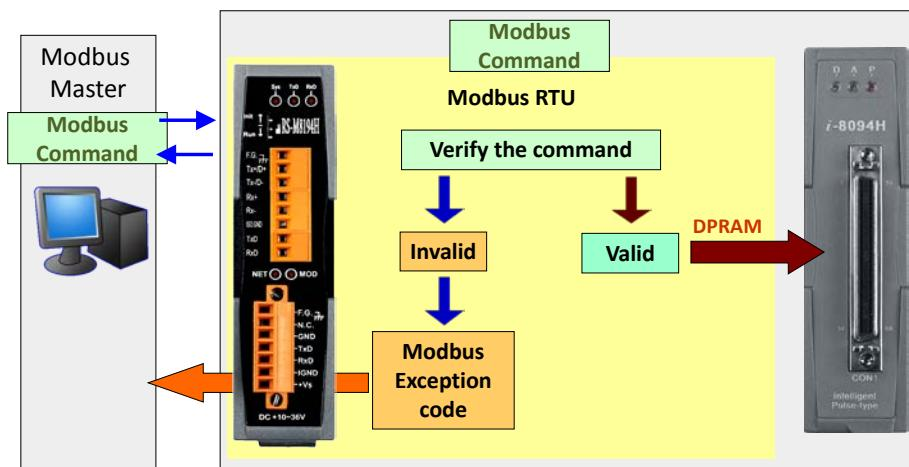

Figure 1: RS-M8194H module in slot 0 of the motion device
- The RS-M8194H module (Figure 1) in slot 0 is the unit which is mainly responsible for the Modbus communication between the Master and Slave. The main task of the module is to verify and filter every command arriving at its serial port according to its current state and consequently decide whether to transfer the command to the i-8094H or, if the command is not supported by the respective state, ignore the command and respond to the Master with a Modbus exception code.